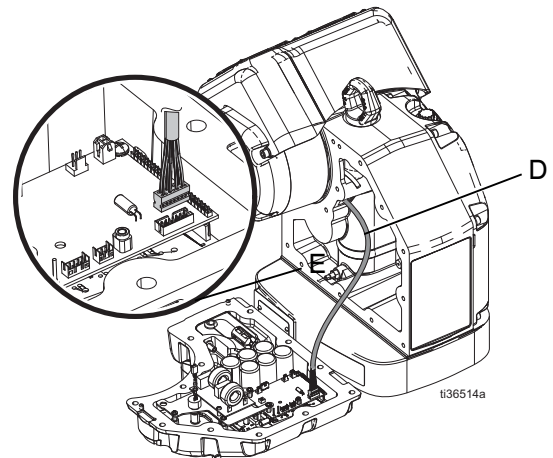

FIG. 20: Encoder Cable
- Encoder cable (D). See FIG. 20 on page 17.